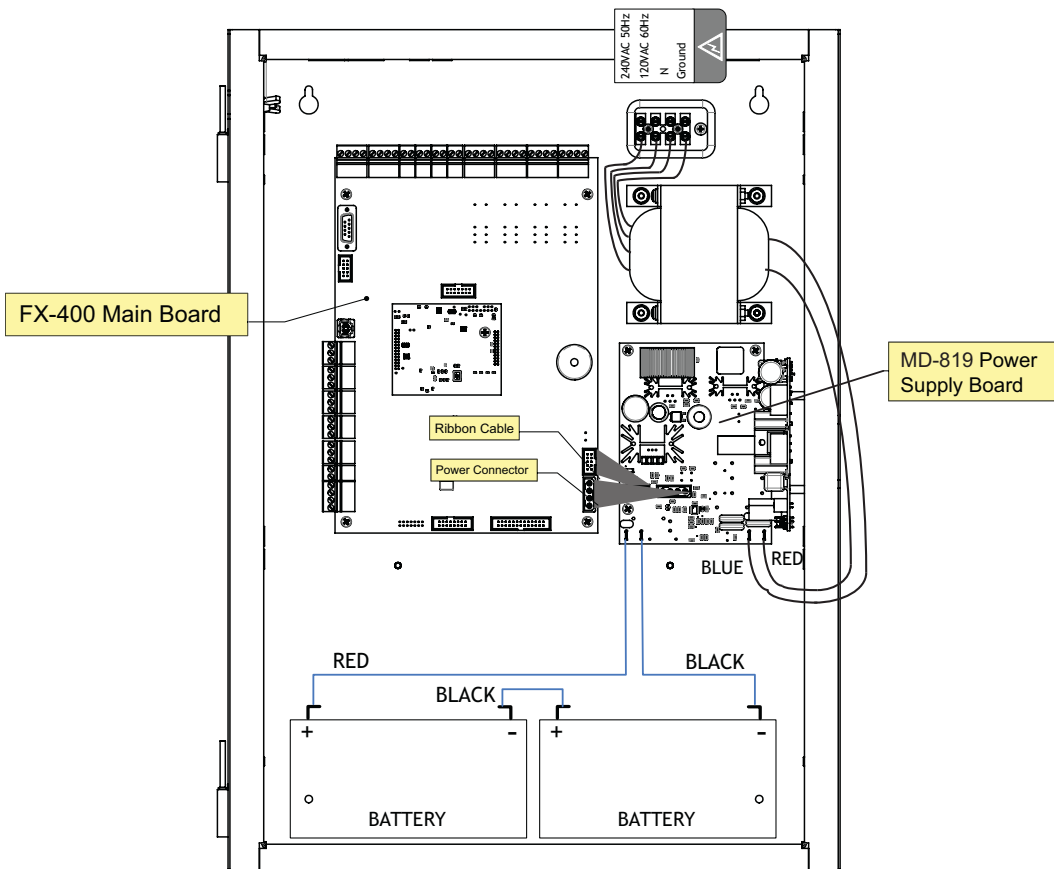

Figure 27 Main Power Supply Wiring and Connections
Wire the power supply as shown in Figure 27 and adhere to the following:
- Wire the AC power to the AC wiring terminals as shown in Figure 27 using the proper wire gauge with 600 volt insulation and proper over current circuit protection that complies with local codes.